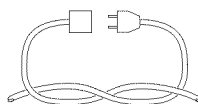

Figure 5 - Tying Extension Cord and Power Cord in Knot
**Note:** An optional method of retaining the extension cord is shown in Figure 5. Use this method with larger-gauge cords that may not fit into the extension cord retainer.